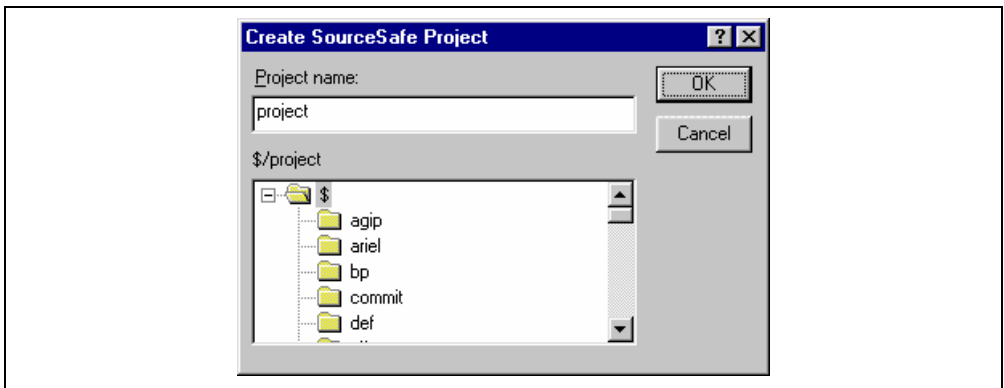

Figure 9.2: Create SourceSafe Project dialog
6. Click “OK”. The “Create SourceSafe Project” dialog is invoked (figure 9.2).